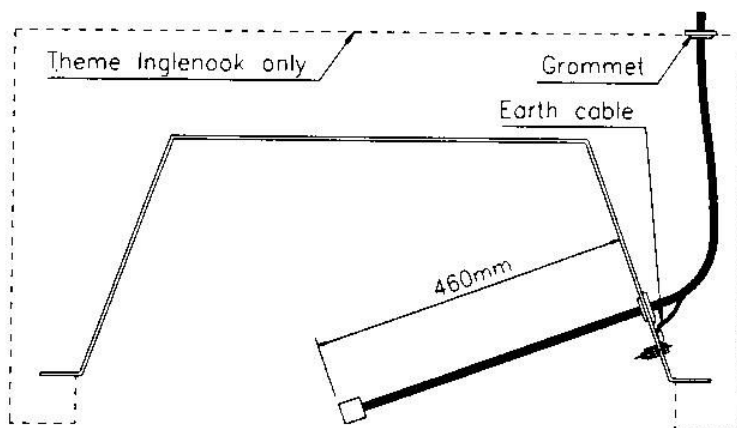

Fig. 11
6. Bring the 4-way plug and cable through the right hand hole in the side of the convection box ready for connection to the burner (see Fig. 11). (Do not bring the earth cable through this hole) Coil up any excess and place between the insulation slab and the wall.